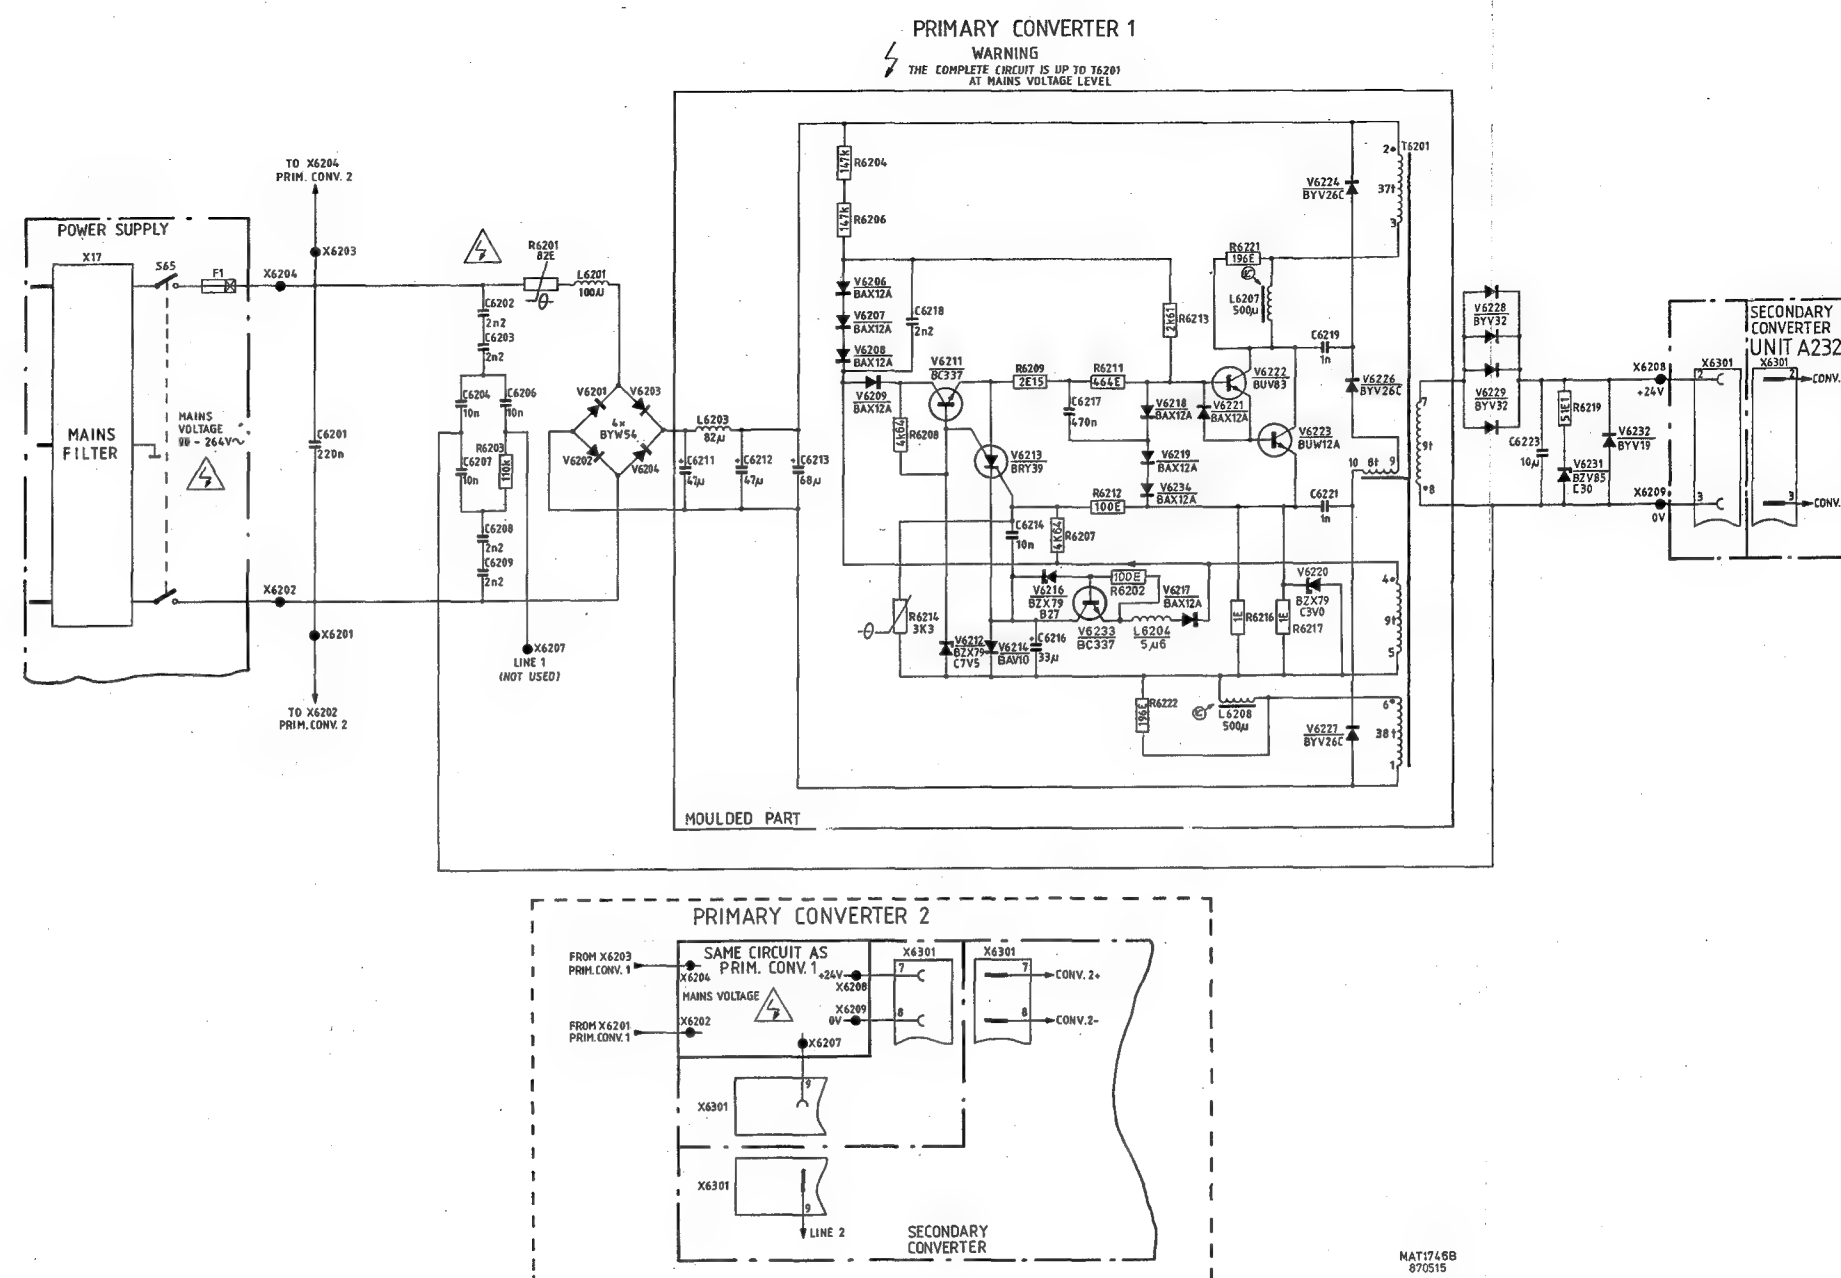

Fig.18.4. Primary converter unit, circuit diagram.
18. CIRCUIT DESCRIPTION OF PRIMARY CONVERTER UNIT (See fig.18.4.)